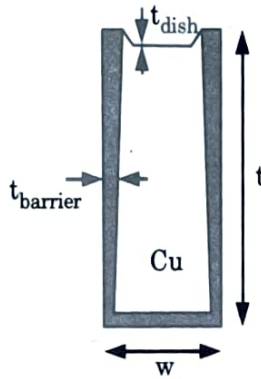

Fig. 2.1.1. Copper barrier layer and dishing.
- As shown in Fig. 2.1.1, copper must be surrounded by a lower-conductivity diffusion barrier that effectively reduces the wire cross-sectional area and hence raises the resistance. Moreover, the polishing step can cause dishing that thins the metal.